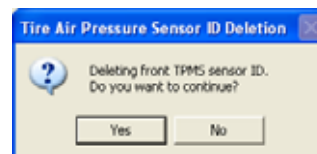

Fig. 5-19 TPMS ID Deletion
- o When Fig. 5-19 appears select **Yes**